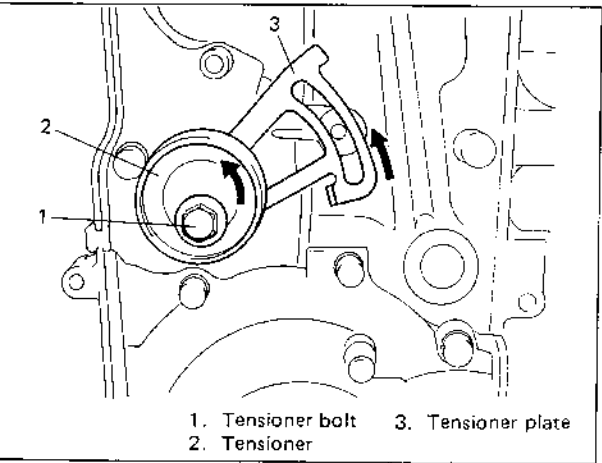

Fig. 6A-34 Tensioner Installation
3. Turn camshaft timing belt pulleys (IN & EX) so that punch mark at "I" mark on intake side camshaft timing belt pulley is aligned with mark on cylinder head cover and punch mark at "E" mark on exhaust side camshaft timing belt pulley with mark on cylinder head cover, but don't turn each pulley beyond each range specified in Fig. 6A-32.